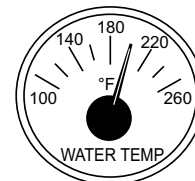

Figure 37. Coolant Temperature Gauge
13. The **coolant temperature gauge** (Figure 37) will indicate the coolant temperature. Under normal operating conditions the coolant temperature should be approximately 180°F (82°C).